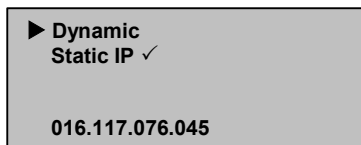

Figure 25: Set Dynamic IP
7. Scroll to Static IP. (See Figure 25.)